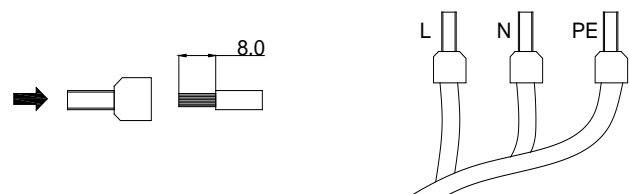

FIG. 7-4 Crimp the Three-core's Ferrule
- 2) When using flexible cables, the conductor must be connected with suitable core end ferrules according to DIN 46228-4, as per FIG. 7-4.